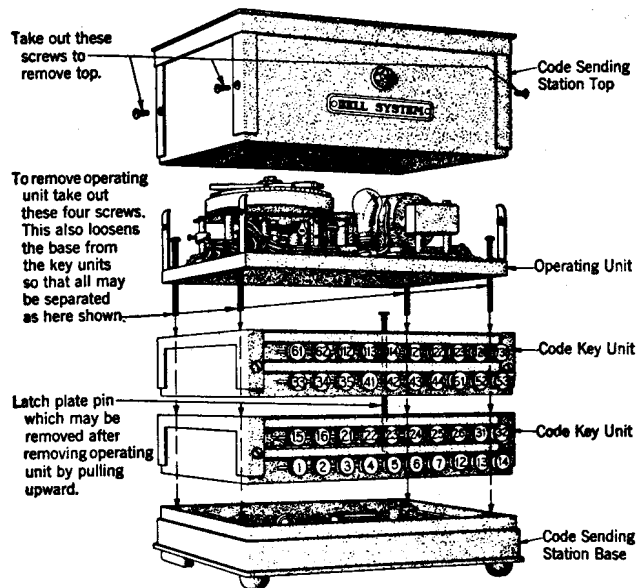

Fig. 1 — 40-code Sending Station for 1A System
2.01 A method of disassembling and reassembling the code sending station is shown in Fig. 1.